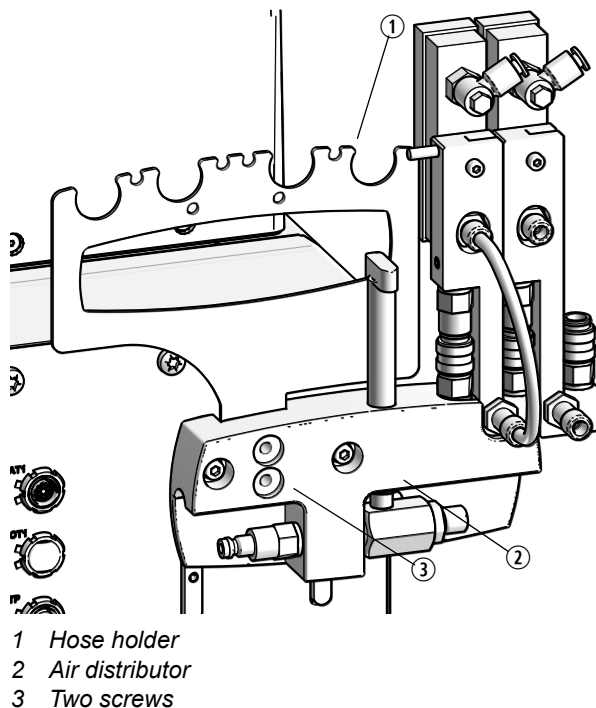

Fig. 5: Mounting the hose holder
1. Slide in the hose holder (Fig. 5, ①) from above behind the compressed air distributor (Fig. 5, ②) on the back of the measuring unit.
2. Tighten the two screws (Fig. 5, ③) to fix it.